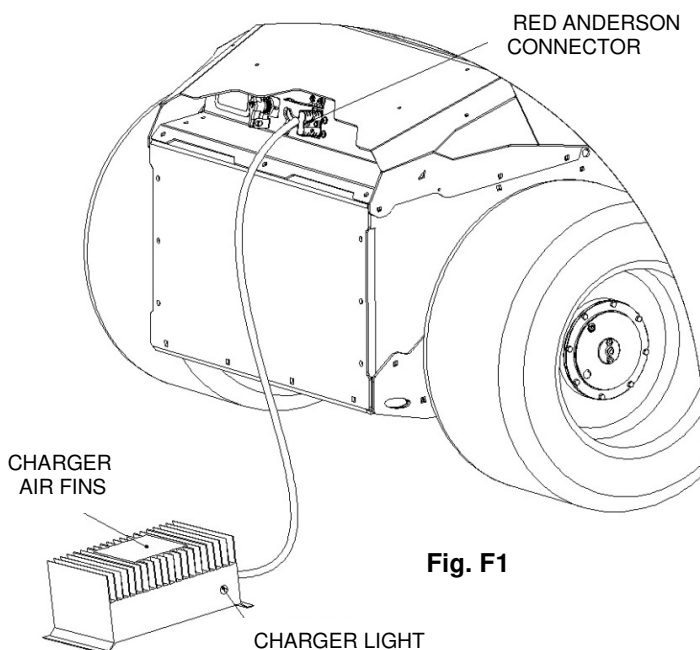

Fig. F1
- **Connect the charger to the mower charging port with the Red Anderson Connector in front or rear (Fig. F1 or F2).** Mower will not drive when charger is plugged into any charge port. Press the push button start (no need to enter passcode). **Plug charger into 220-240VAC wall outlet.** You will see a red light on the charger unit and cooling fan will turn on. This will indicate the charger is functioning properly.